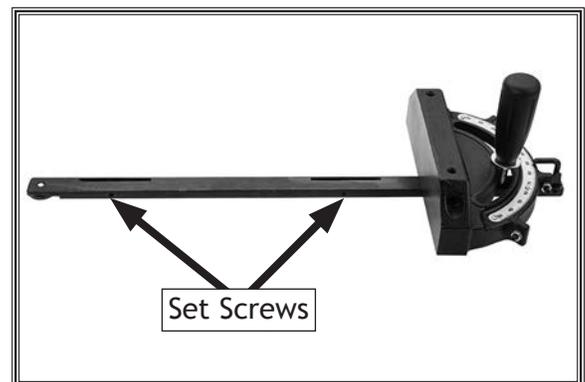

Figure 123. Set screws for adjusting miter bar tightness in miter slot.
5. Loosen lock nut on 90° set screw (see **Figure 123**), then adjust set screw until miter body is flush with square. Tighten lock nut.